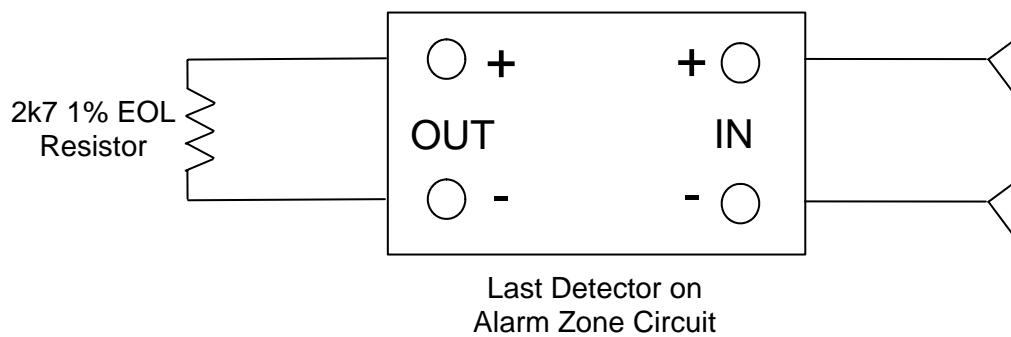

Figure 2.9
- 11) Figure 2.9 shows the correct way to wire the EOL resistor.